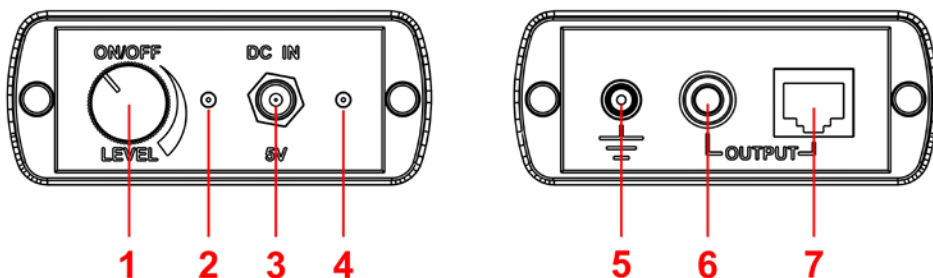

fig.3
The generator is a functionally complete self-powered device (battery). The appearance of the generator is shown in fig.3. The generator is used when cable tracing (CABLE LOCATOR mode).
The numbers in fig.3 denote:
The generator power supply is controlled by two LEDs (Fig. 3, p.2 and p.4). When the generator is turned on, the red LED lights up (Fig. 3, p.2). When the battery is low, the red LED flashes. The generator battery is charged in the off state using a charger (Fig. 1, p.), while the green LED is lit (Fig. 3, p.4), which goes out after charging. Full charge time is not more than 2 hours.
The generator is equipped with two output connectors. If the line is equipped with plugs or sockets of the RJ standard, an RJ45 socket is used (fig.3, pos.7). The test signal fed to the contact #4 of that socket.
If the cable to be tested is not equipped with connectors, use the socket (fig.3, pos.6) and the probe with a "crocodile type" clip.
3. Turn on the generator by the switch (fig.3, pos.1) and set it to the middle position.